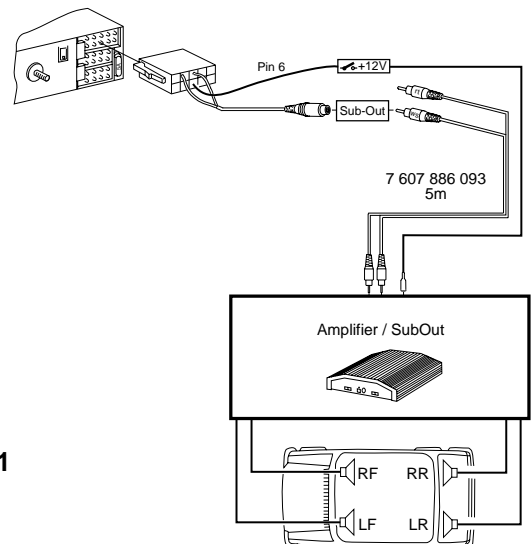

Fig.11
- Anschluß SUB-OUT(CINCH) ..... Fig. 11
Connection SUB-OUT(CINCH) .....	Fig. 11